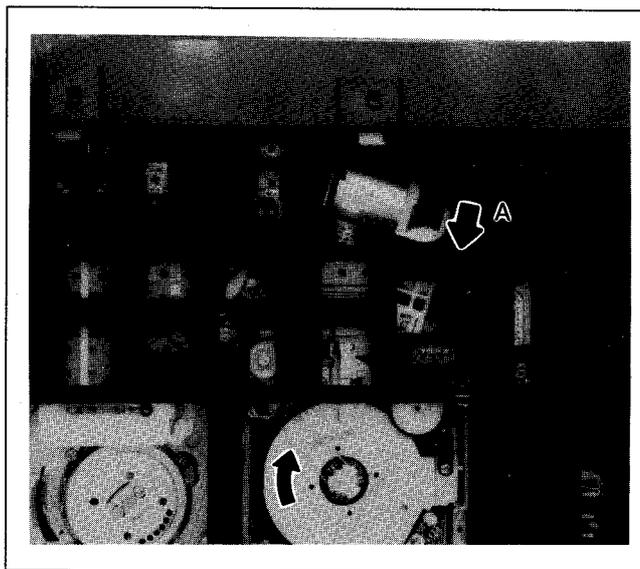

Fig. S6
- 2) Turn the WORM GEAR to "A" arrow mark direction manually as shown in Fig. S6, moving the LOADING POST to the unloaded position.